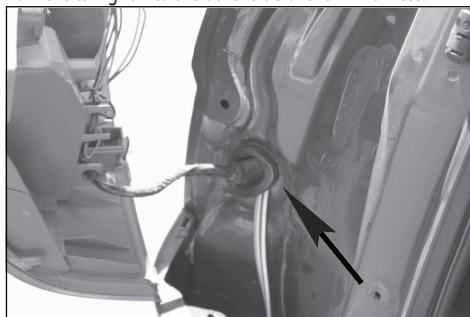

Figure 3
8. Cut the cable ties on 4-Flat portion of harness. Route the 4-Flat portion of the RV harness with connector ends containing the Green wire through the opening behind the taillight shown in **Figure 3**. Push grommet back into hole around the 4-Flat wire. It may be necessary to make a slit in grommet. If so apply silicon around area to seal.